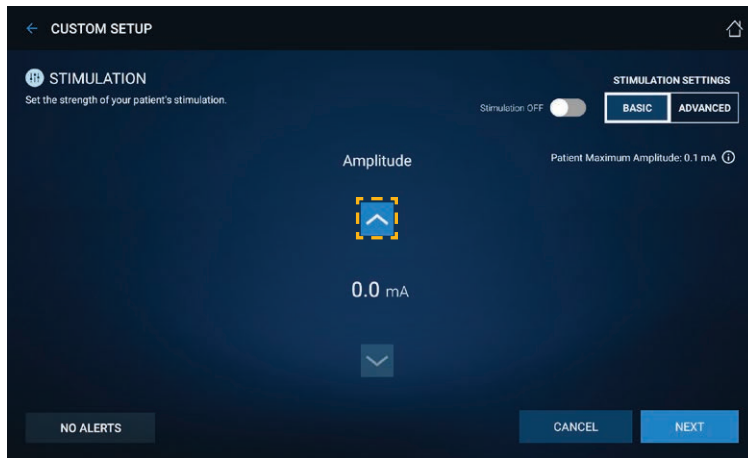

Figure 15. Custom Setup: Basic Stimulation screen
1. Adjusting amplitude requires stimulation to be turned on. From the Basic Stimulation screen, tap the up arrow button (Figure 15) to turn on stimulation.